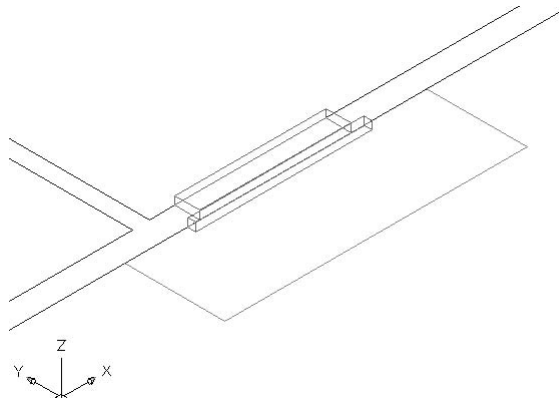

FIGURE A.12: The front door opening with two solid boxes
3. Start the Box command and create a box that sits in the opening, between the jamb lines. Give it a height of 2". Then make a second box, also 2" high, that sits on the threshold overhang (see Figure A.12).